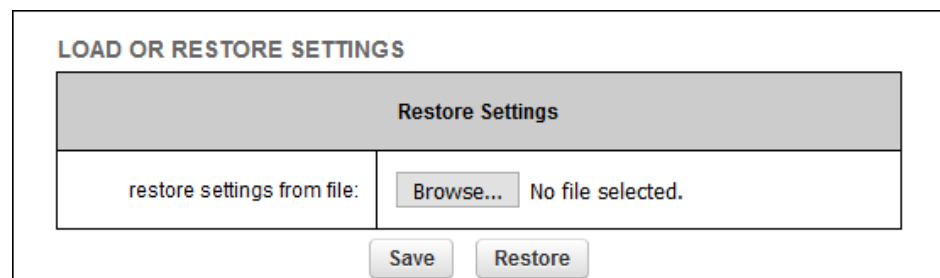

Figure 63. Configurator GUI (LOAD OR RESTORE SETTINGS dialog)
- The **LOAD OR RESTORE SETTINGS** dialog will be shown (Figure 63 \(page 140\)).